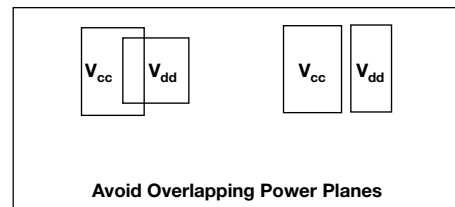

Fig. 4
- When you have separate power planes, keep them over a common ground to reduce system noise and power coupling (Fig. 4)